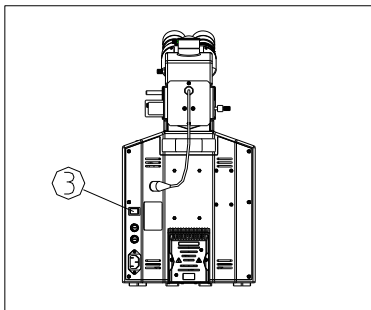

Fig.2
(4) When working, the surface of light source will be very hot. Make sure there is enough room for the heat dissipating around the light source.
(5) Connect the microscope to the ground to avoid lightning strike.
(6) For safety, make sure the power switch ③ is at "O" (off) and power it off before replacing the fuse (See Fig. 2).
(7) Wide voltage range is supported as 100~240V. Additional transformer is not necessary. Make sure the voltage is in this range.
(8) Use the special wire supplied by our company.
(9) All the power OFF devices have been set in the position where is easy to operate.